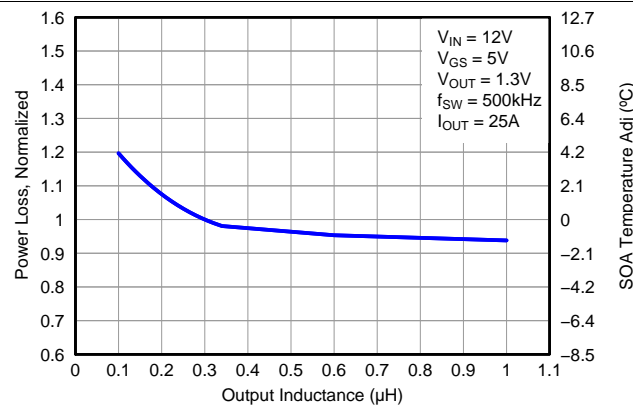

Figure 9. Normalized Power Loss vs Output Inductance
- Normalized power loss for output inductor ≈ 1.07 (Figure 9)
- SOA adjustment for output inductor $\approx 1.7^\circ\text{C}$ (Figure 9)